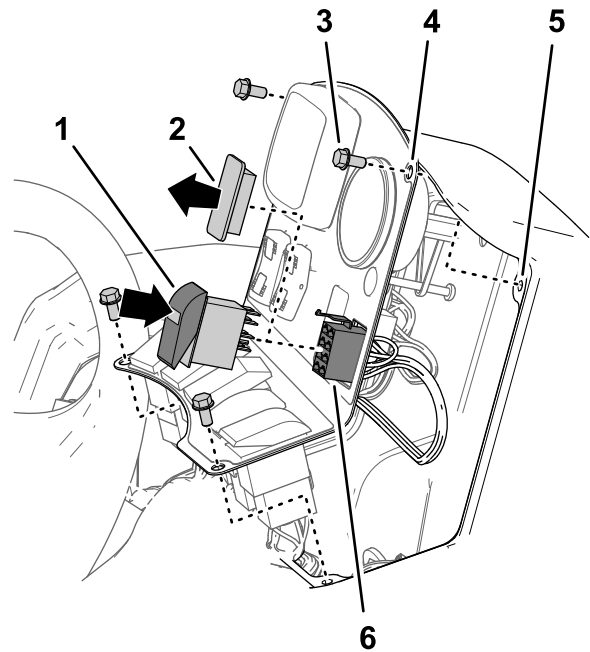

Figure 23
1. If installed, remove the 4 flange-head bolts (1/4 x 1/2 inch) that secure the control panel to the console as shown in Figure 23.
2. Remove the switch plug from the control panel of the console (Figure 23).
3. Align the Connect the 8-socket connector of the wiring harness of the ultra sonic boom finishing kit through the opening in control panel (Figure 23).
4. Connect the 8-socket connector of the wiring harness of the ultra sonic boom finishing kit labeled SONIC MODE MANUAL VS. AUTO to the rocker switch (Figure 23).
5. Insert the rocker switch in the control panel opening until the switch snaps securely (Figure 23).
6. Align the holes in the control panel to the holes in the top of the console (Figure 23).
7. Secure the panel to the console with the bolts (Figure 23) that you removed in step 1.